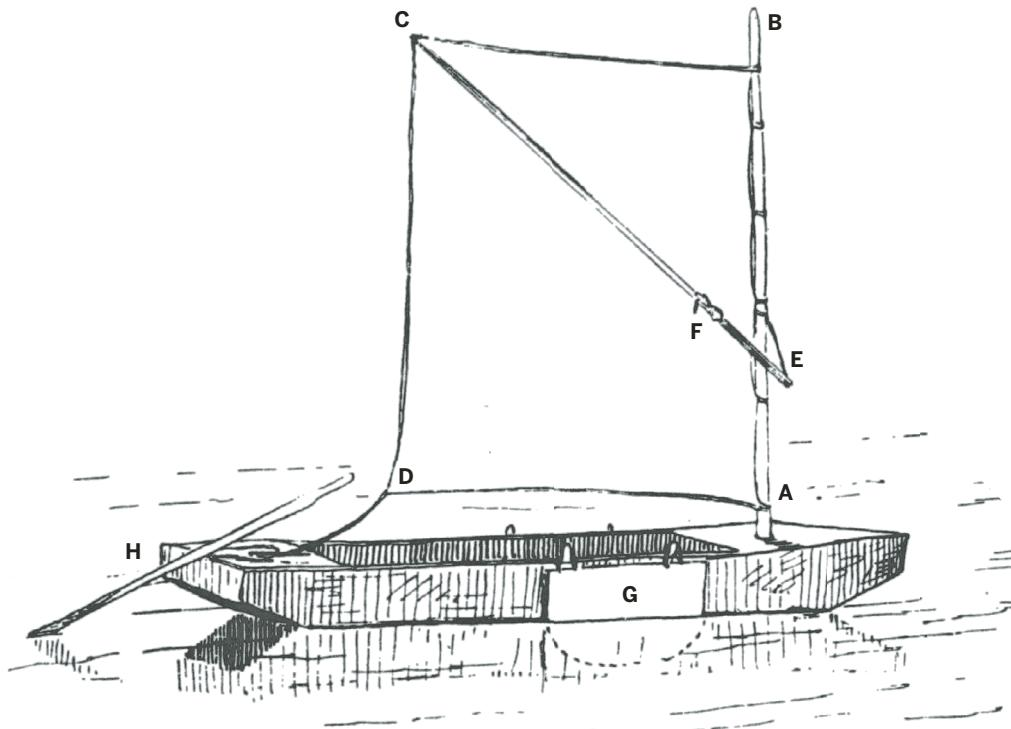

Fig. 2
Want to try sailing your new boat? Figure 2 from the same book shows a good spritsail rig for this boat. The push pole becomes a mast, and the tarp becomes a sail. The leeboard (G) hangs over each side to keep the boat from drifting sideways. (A “no parking” sign works well for this.) The sail is a rectangular tarp, sheet, poncho, or tablecloth tied to the mast and sprit at the corners. The mast (B) and sprit (C) are short enough to stow in the boat. The mast can be stepped off-center, if you prefer. The sprit has a notch (E) at its end for the “snorter line.”